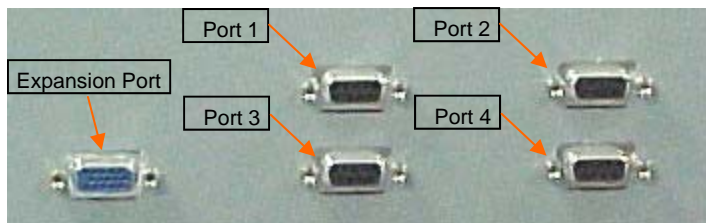

Figure 3
2. Connect expansion cable. Tighten screws. See Figure 3.